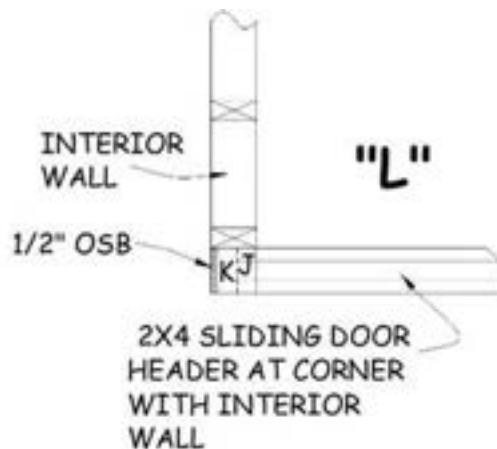

Figure 3-11. Interior L-Corner in Flush Sliding Door.
4. Referring to the House Plan, check for flush sliding closet walls that end at an inside corner of the closet (typically adjoining the 25” closet end wall). Similar to a plumbing wall, lay out the end of the flush sliding wall with a 3½” sandwich of Jack stud, King stud, and ½” of OSB (see Figure 3-11).
- a. The short wall next to the tub/shower will typically be 36" long. As usual, layout studs on 24" centers starting at the intersecting wall. At the opposite end, layout a 2x4-2x6 L-corner similar to that shown in Figure 3-11, with the 2x6 base of the L on the surface facing the tub. This will provide vertical blocking to which the shower flange can be attached, 31½" from the wall.